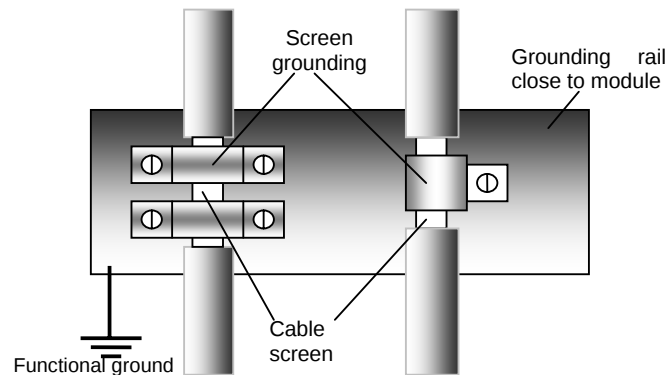
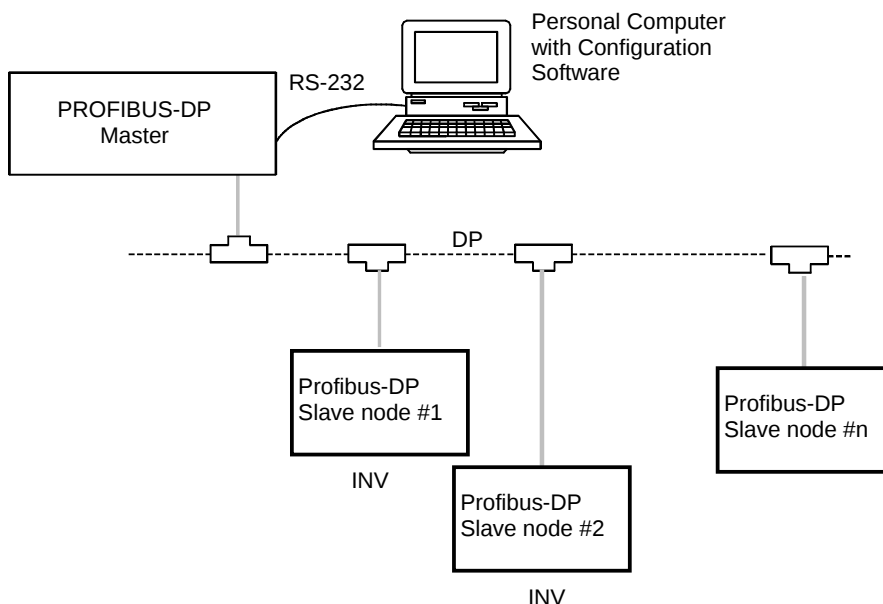

Figure 3-1 Cable Grounding Wiring Example
Figure 3-2 System Construction Example
4. In order to avoid noise problems, the shield of the bus cable should be grounded by clamping it to a metal surface connected to PE for proper grounding. Refer to Figure.3-1.
- (b) When the master detects a communication fault, turn on the intelligent input terminal which would be allocated (FRS), (RS) and/or (EXT) function.
7. Figure 3-2 demonstrates the basic components for construction of Profibus-DP application system. Refer to the master's description manuals when Profibus-DP Network system comes into operation.